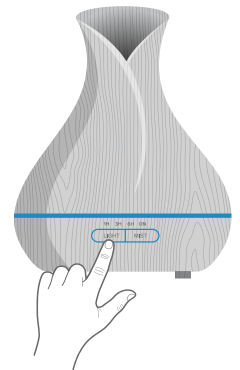

Fig. 6
- 7 While the LED light is off, press the "LIGHT" button once to put the LED light in carousel mode where the LED will cycle through all the 7 colors continuously. To select a fixed color, press the "LIGHT" button again to cycle through all the colors. There are 2 brightness levels for each color. To shut off LED, hold the "LIGHT" button until LED shuts off. (Fig. 6)